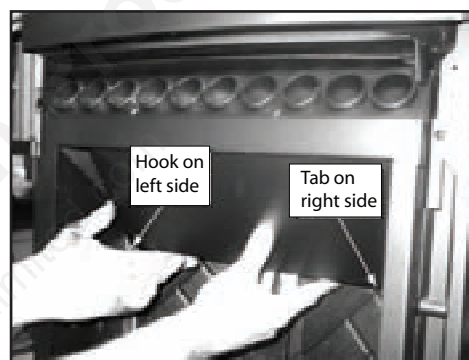

Figure 37.2
2. The top baffle has a hook on the bottom left side that rests on the top lip of the cast brick. There is a tab on the bottom right side that hooks into the side bracket. Remove the top baffle by first pulling the baffle forward until back edge drops down. Then slide baffle back until the front edge clears the shelf that it had been resting on. **Figure 37.2**